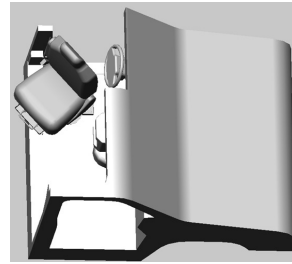

FIG 1.
1. If the seat is reclined, adjust the back of the seat to its full upright position. (FIG 1.)